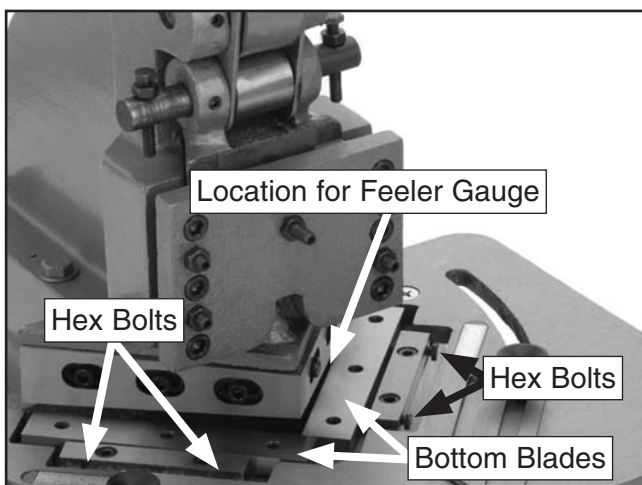

Figure 16. Adjusting bottom blades.
2. Loosen the four hex bolts and slide the bottom blades back so that a feeler gauge can be placed between the top and bottom blades (**Figure 16**).
4. Place the 0.004" feeler gauge between the top and bottom blades in the position shown in **Figure 16**, then turn the hex bolts to adjust one bottom blade until it just pinches the feeler gauge between the blades.